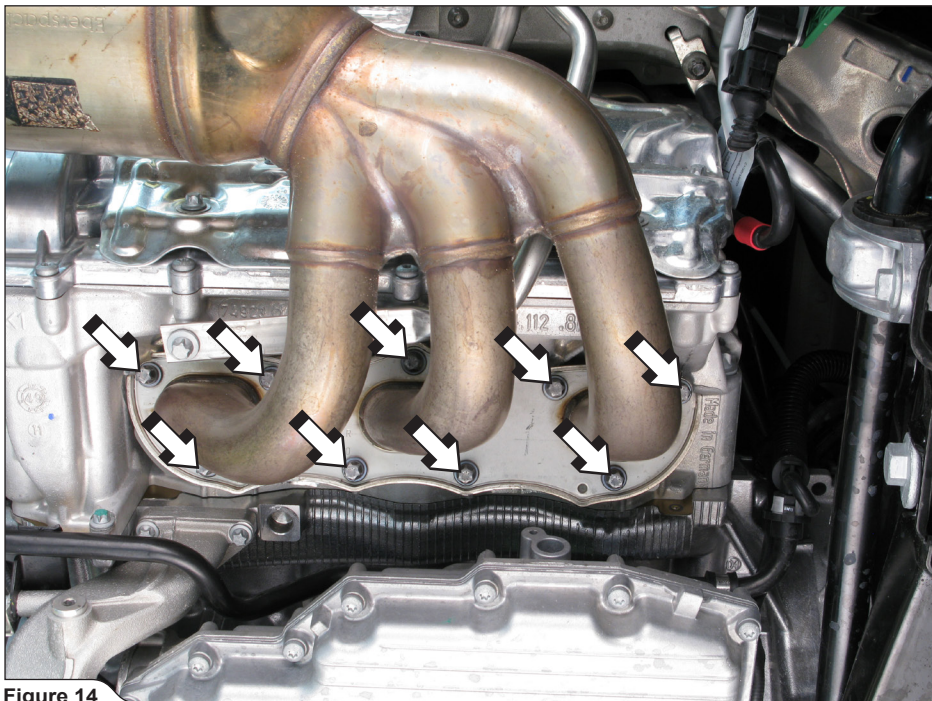

Figure 14
10. Loosen the header tubes' flange bolts on both sides of the engine (Figure 14).